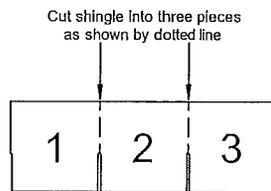

**Figure 43.** Shingle fastener locations for Wind Zone I (left) and Wind Zone II (right).
2. **Install shingles.** If shingles have been left off at the ridge line for site installation, install them now using 1" x 1" x 16 ga galvanized staples or 12ga 1-1/4" long, 3/8" diameter head roof nails. For Wind Zone I, fasten at 5/8 inch above each tab cutout slot and one at each end of the shingle one inch in from the edge (four fasteners for a three-tab shingle) (Figure 43). For Wind Zone II, use two fasteners 5/8 inch above and on either side of the tab slots and one at each end of the shingle one inch in from the edge (six fasteners for a three-tab shingle). Do not fasten through the shingle tar line.